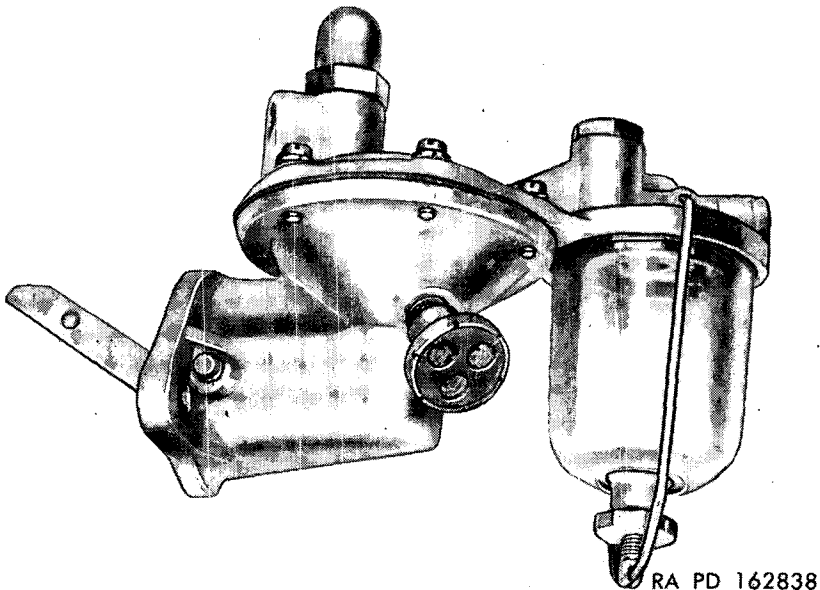

Figure 12. Fuel pump, series P.
- (1) Mark edges of top cover and body (fig. 12) with a file. Mark at heat shield stud, if used. The parts may then be disassembled in the same relative positions and heat shield stud properly located.
- (2) Remove cover screws and lock washers. Also remove heat shield stud, if used. Separate cover from body by jarring cover loose with a light plastic hammer.